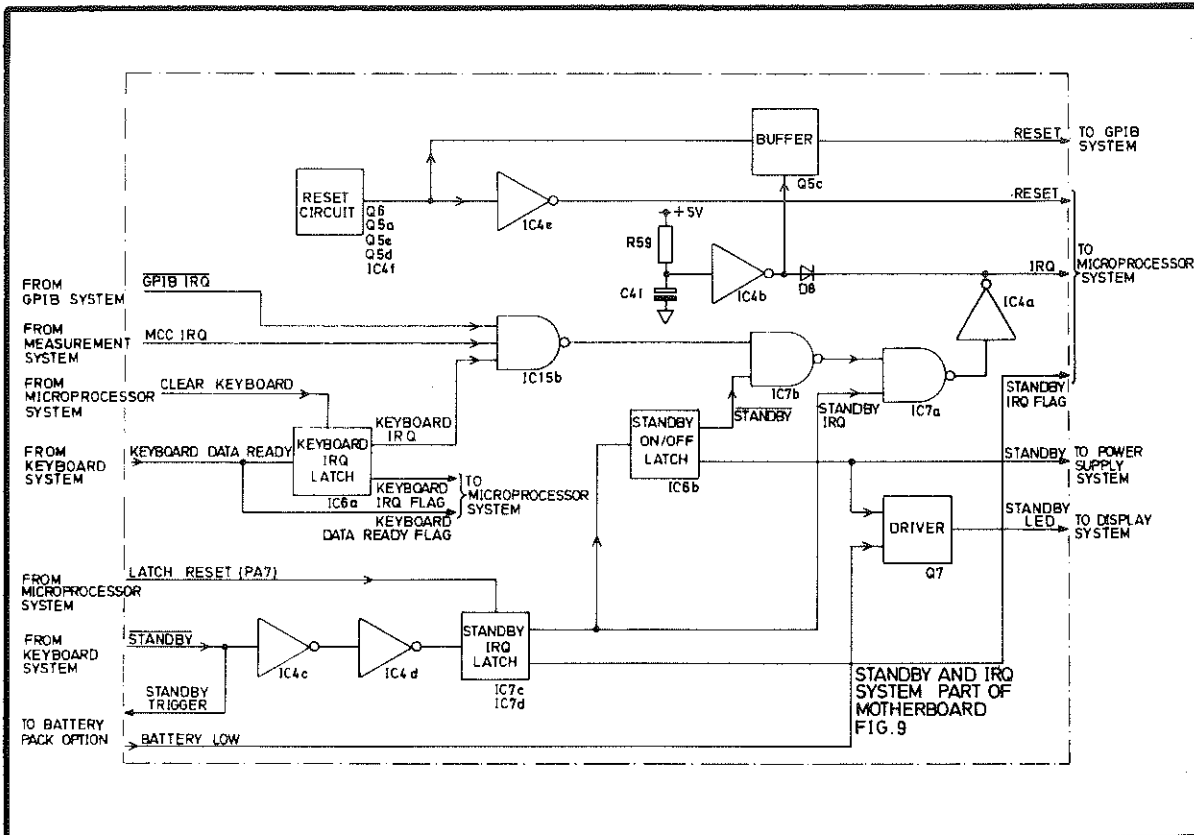

Fig 6.10 The Standby and IRQ System
- 86 The system generates reset signals for the microprocessor and GPIB interface, and the standby switching signal for the power supply system. It also combines the IRQ signals from the GPIB interface, the measurement system and the keyboard system for connection to the microprocessor. A block diagram is given in Fig 6.10.